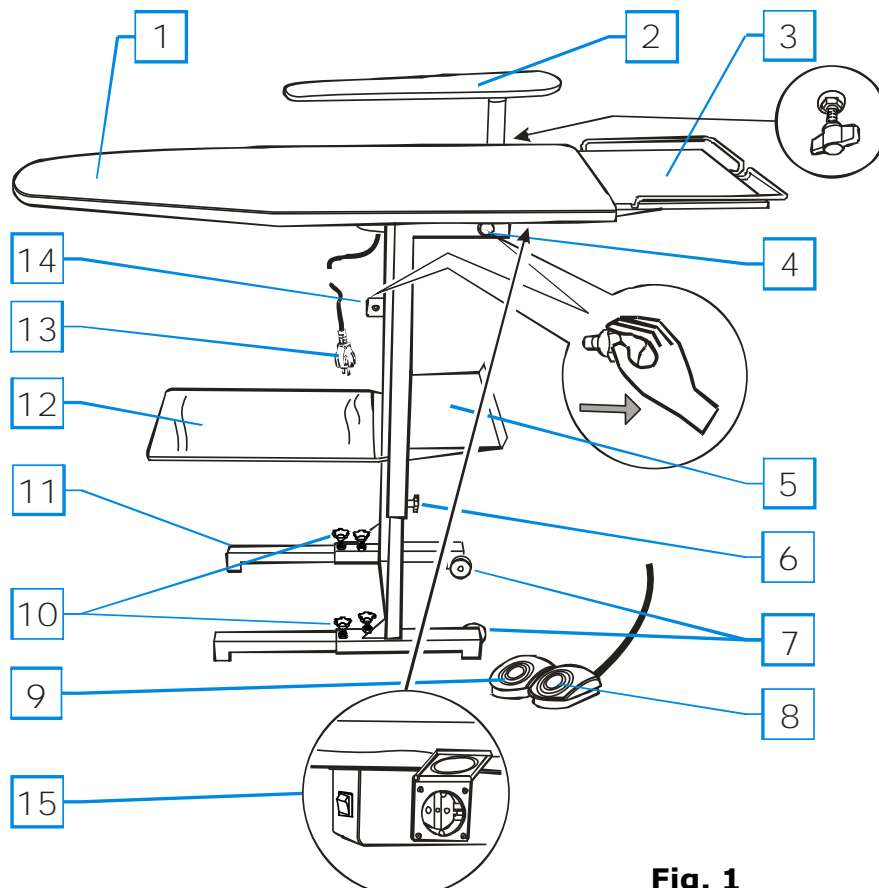

Fig. 1
Pull the ironing board release knob (14, fig. 1) and open it. Be sure that the ironing board is correctly fixed to the knobs to block ironing board (4, fig. 1).
1. Replace the cover (Prontotop) every 400 hrs. or maximum every 6 months. Replace it also if the vacuum of the board is unsatisfactory or if stains appear on it. This operation must be carried out with KER switched off and cold. (fig. 1). Stains may appear also if too much steam is used or if vacuum function is not used enough (in this case reduce steam flow and use more vacuum). **N.B.:** the cover can be washed 1 or 2 times.